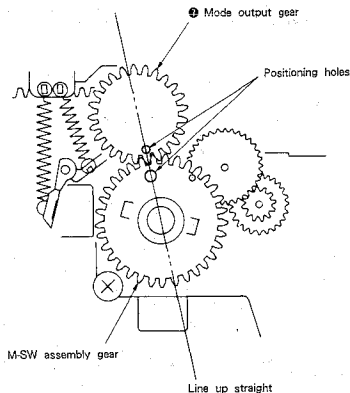

Fig. 7-39.
- i) Mount the mode output gear ⑧ so that the positioning holes are lined up. (See Fig. 7-39.)
11) Fix stopper washer ⑥.
13) Mount B release arm assembly ⑤ and hook spring ⑦.
15) Mount the LD-1 board ③.
16) Mount drive gear B assembly ② and fix stopper washer ⑥.